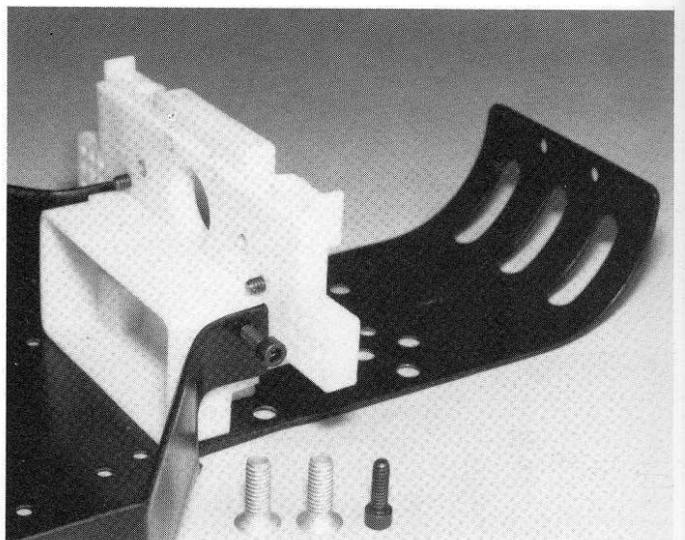
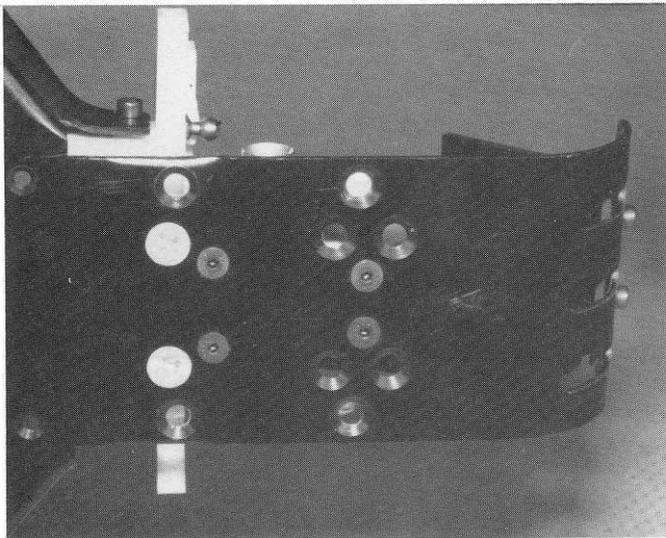

Fig. 79
Fig. 85
□ **Figs. 79 & 80** Install the rear bulkhead in the chassis, as shown, with the two #6280 8/32 x 1/2" alumium screws and two #6925 4/40 x 1/2" SHCS screws. Do not tighten these four screws yet. We need to be able to shift the bulkhead slightly. We tighten the screws later in fig. 85.
□ **Fig. 85** Lightly snug all the screws in figs. 79, 80, 81, 82, and 83. Now go back and tighten all those screws, being careful again not to overtighten the ones in plastic.